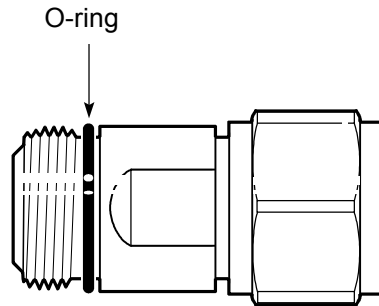

Figure 80 – Adding the large O-ring
11. Add the large O-ring to the end of the connector, as shown in *Figure 80*.